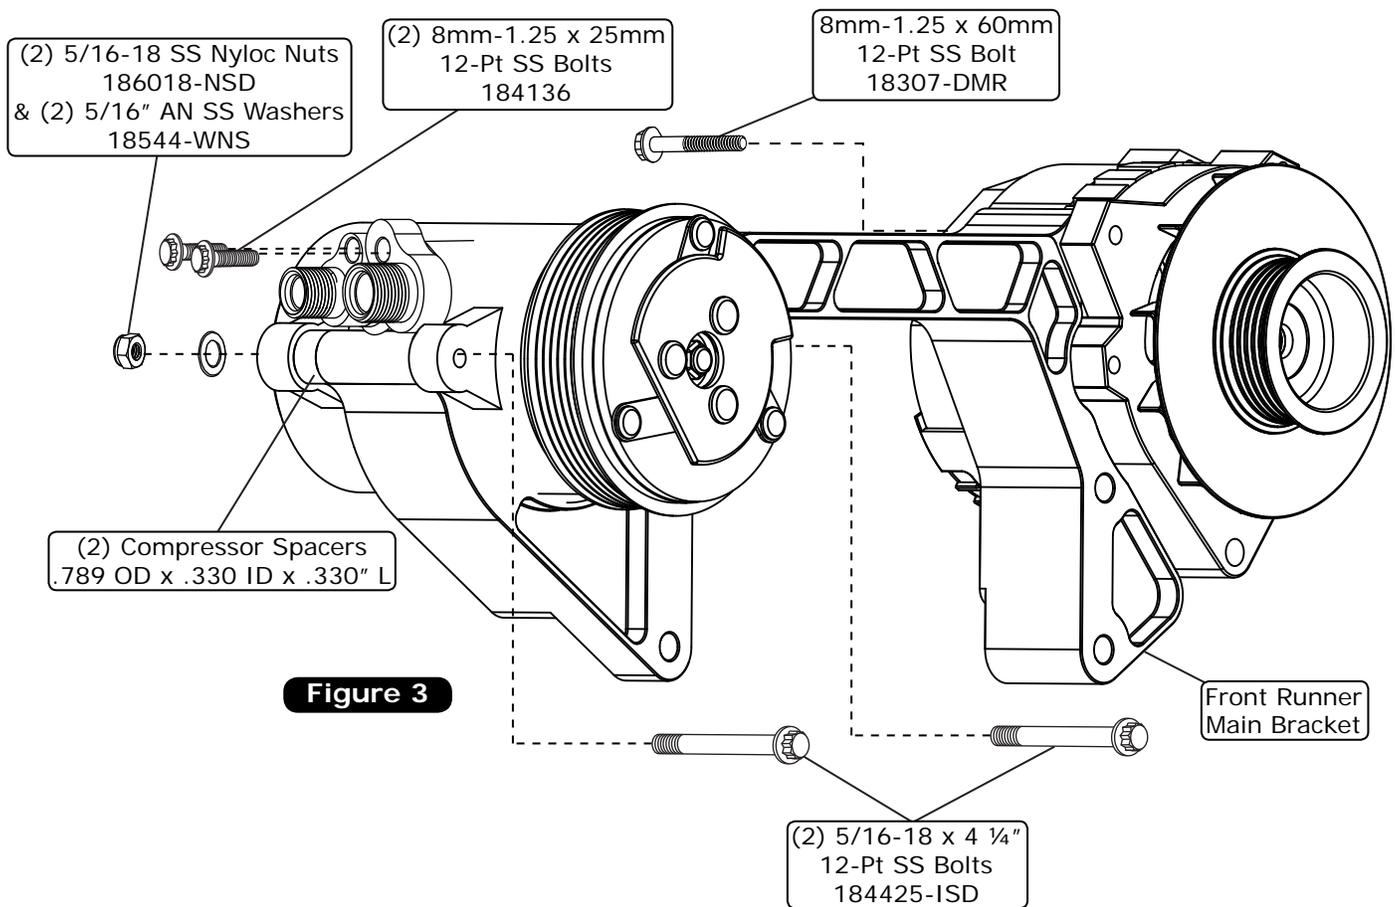

Figure 3
1. Install the #8 and #10 A/C compressor fittings onto the compressor using (2) 8mm-1.25 x 25mm 12-Pt SS bolts as shown in Figure 3, below. Torque to 18 lb ft. Keep the ports sealed with caps until the A/C circuit has been completed.
2. Install the compressor onto the Front Runner main bracket using (2) .789 OD x .330 ID x .330" L spacers, with (1) between the main bracket and the compressor's upper rear mounting tab, and (1) between the main bracket and the compressor's lower rear mounting tab. Secure the compressor to the main bracket using (2) 5/16-18 x 4 1/4" 12-Pt SS bolts, (2) 5/16" AN SS washers and (2) 5/16-18 SS nyloc nuts (See Figure 3, below). The compressor mounting ears contain sliding bushings that are drawn in and clamp to the bracket when compressed. Torque to 25 lb ft.
3. Install the alternator onto the main bracket using an 8mm-1.25 x 60mm 12-Pt SS bolt (See Figure 3, below). Torque to 24-28 lb ft.